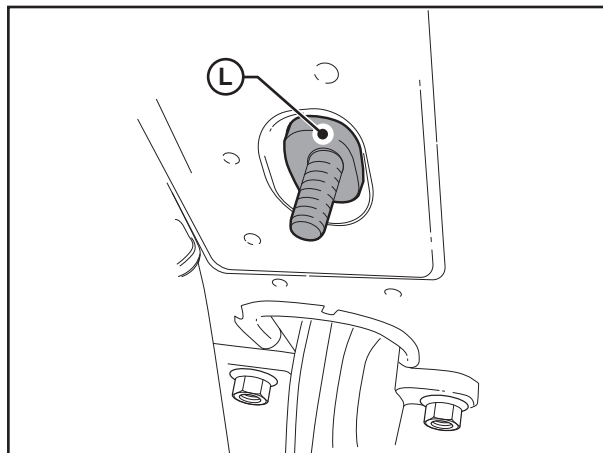

FIGURE 13
- Insert chassis spacer (**item L**) ensure it locates in the oval recess as shown in Figure 13.